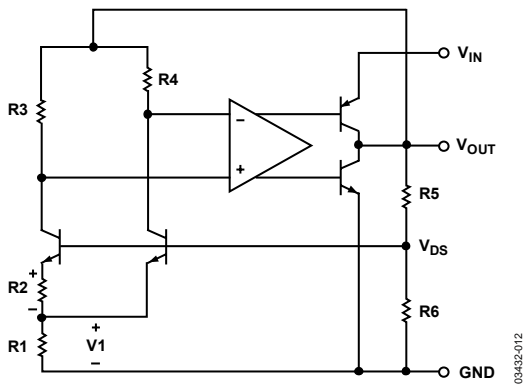

Figure 12. Simplified Schematic
The ADR370 uses the band gap concept to produce a stable, low temperature coefficient voltage reference suitable for high accuracy data acquisition components and systems. This device makes use of underlying temperature characteristics of a silicon transistor's base-emitter voltage ( $V_{BE}$ ) in the forward-biased operating region. Under this condition, all such transistors have a  $-2 \text{ mV}/^\circ\text{C}$  temperature coefficient (TC) and a  $V_{BE}$  that, when extrapolated to absolute zero, 0 K, (with collector current proportional to absolute temperature) approximates the silicon band gap voltage. By summing a voltage that has an equal and opposite temperature coefficient of  $2 \text{ mV}/^\circ\text{C}$  with a  $V_{BE}$  of a forward-biased transistor, an almost zero TC reference can be developed. The simplified circuit diagram in Figure 12 shows how a compensating voltage,  $V_1$ , is achieved by driving two transistors at different current densities and amplifying the resulting  $V_{BE}$  difference ( $\Delta V_{BE}$ , which has a positive TC). The sum ( $V_{BG}$ ) of  $V_{BE}$  and  $V_1$  is then buffered and amplified to produce a stable reference voltage of 2.048 V at the output.